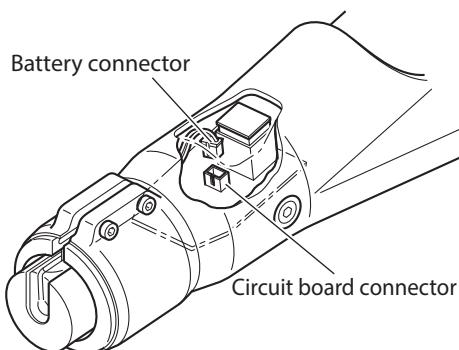

Fig. 21 Removing the Battery Connector
- 1 Remove the battery connector from the circuit board (Fig. 21).
- 9** Insert the battery connector into the circuit board connector (Fig. 21).